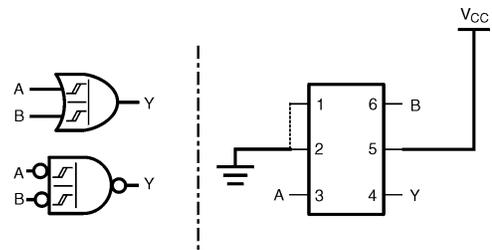

Figure 12. 2-Input OR Gate
4. C_{PD} is defined as the value of the internal equivalent capacitance which is derived from dynamic operating current consumption (I_{CCD}) at no output loading and operating at 50% duty cycle. (See Figure 12) C_{PD} is related to I_{CCD} dynamic operating current by the expression: I_{CCD} = (C_{PD}) (V_{CC}) (f_{IN}) + (I_{CC}static).